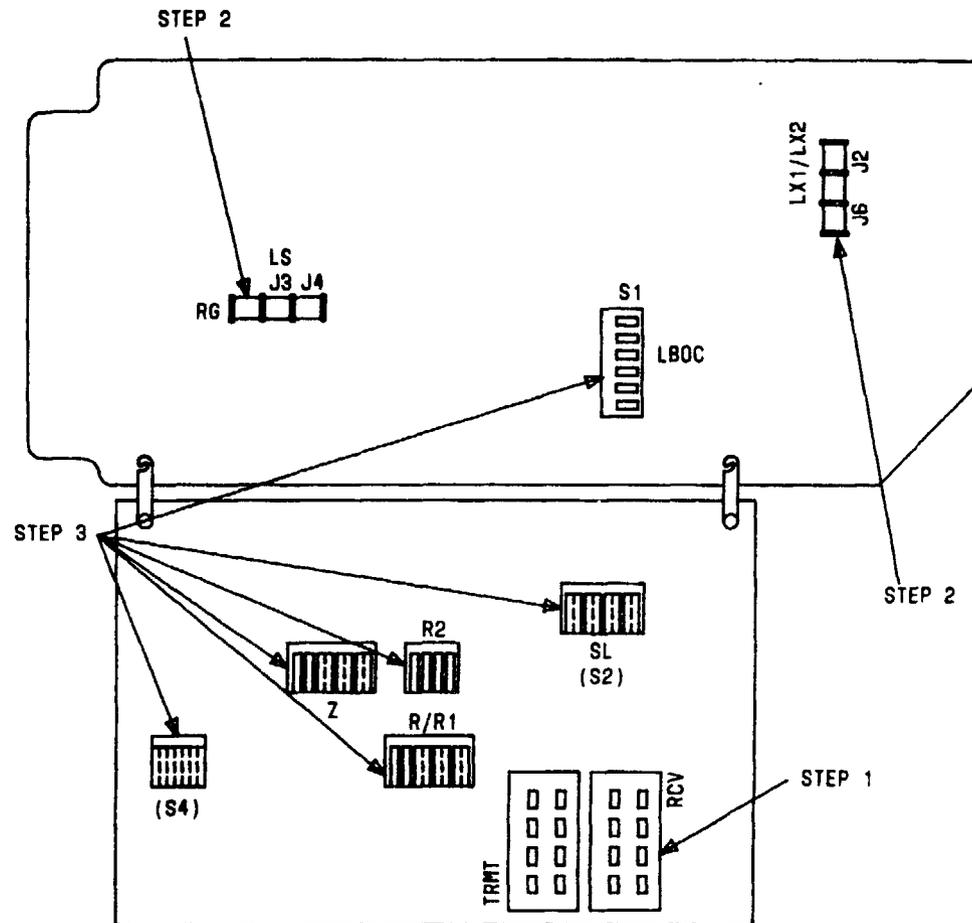

FIG. 1
- [1] From information on WORD or CLRC, set TRMT GAIN and RCV GAIN attenuators [FIG. 1] [DLP-565]
- [2] From information on WORD or CLRC, set options J2 and J3 [FIG. 1] [TABLE A] [DLP-566]